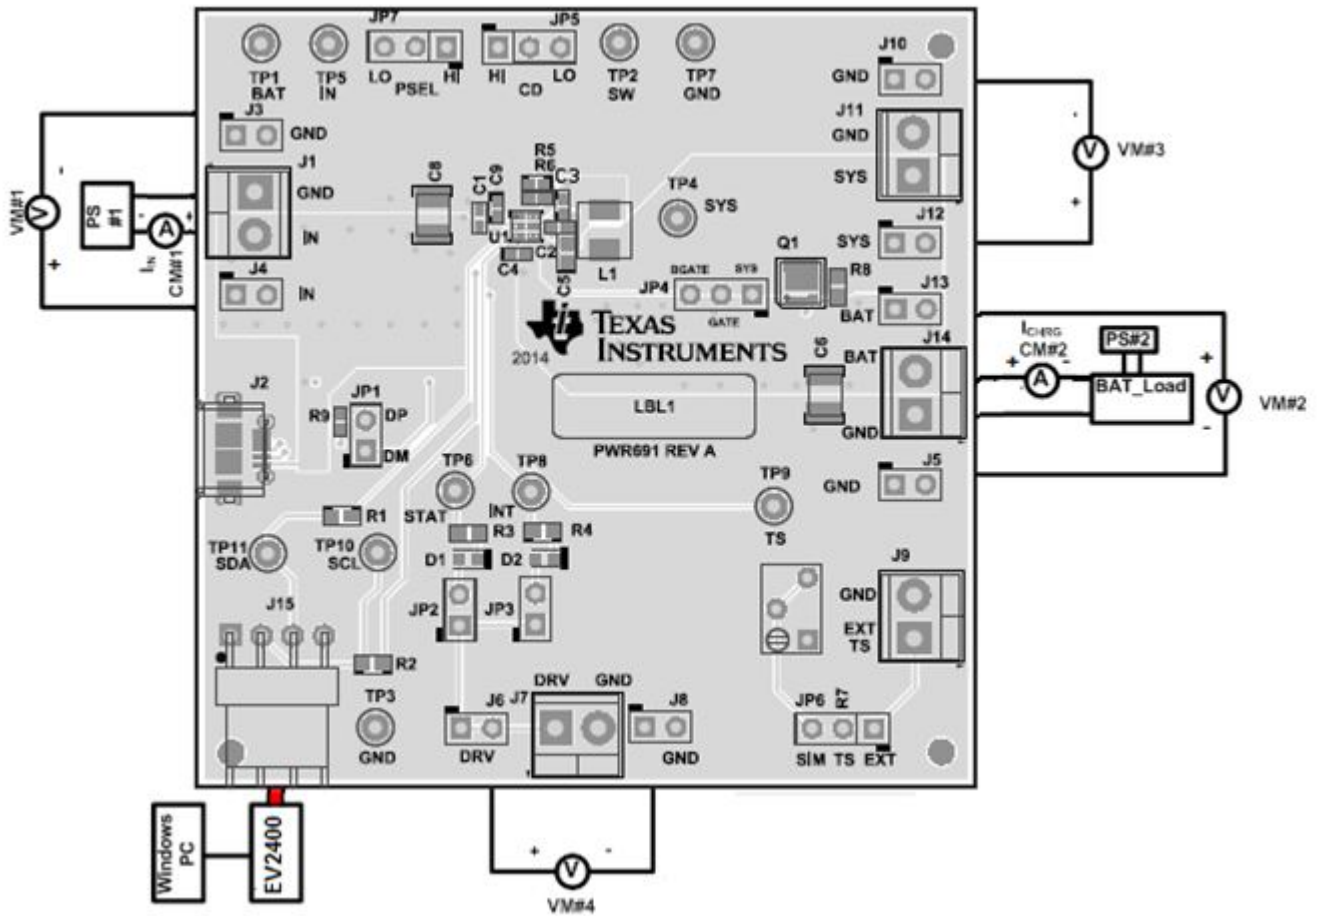

Figure 4. Original Test Setup for bq24261MEVM-691
9. After the preceding steps have been performed, the test setup for bq24261MEVM-691 is configured as is shown in Figure 4.
2. Ensure that the shunts are installed as highlighted in yellow in Figure 4.
3. Connect the output of Power Supply #1 (PS #1), with at least a 4-A current limit setting, in series with current meter (multimeter) #1 (CM #1) to J1 as shown in Figure 4.
5. Connect either a real single cell lithium ion battery or battery simulator across J14 or J13/J5 (BAT, GND) with current meter #2 in series as shown in Figure 4. If using a battery simulator like the one shown in Figure 2 and referred to as BAT_LOAD in Figure 4, configure power supply #2 (PS#2) with at least 4-A current limit for 3.4 V.